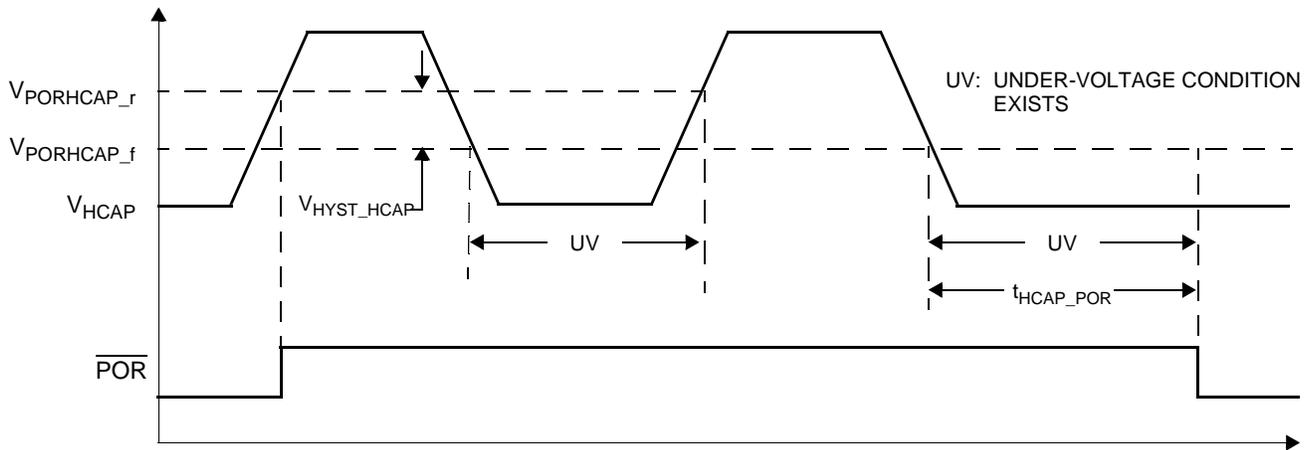

Figure 5. V_{HCAP} Under-Voltage Detection
| 86 | HCAP Under-Voltage Reset Delay (See Figure 5) $V_{HCAP} < V_{PORHCAP_f}$ to POR assertion | t_{HCAP_POR} | — | $880 / f_{OSC}$ | — | s | (7) |